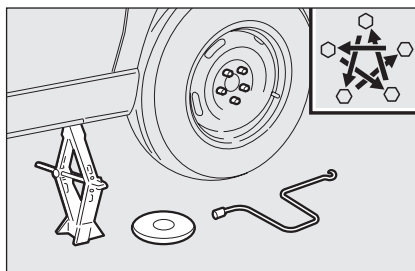

fig. 7
- ☐ Fasten bolts completely, working in a criss-cross fashion as shown in **fig. 7**;